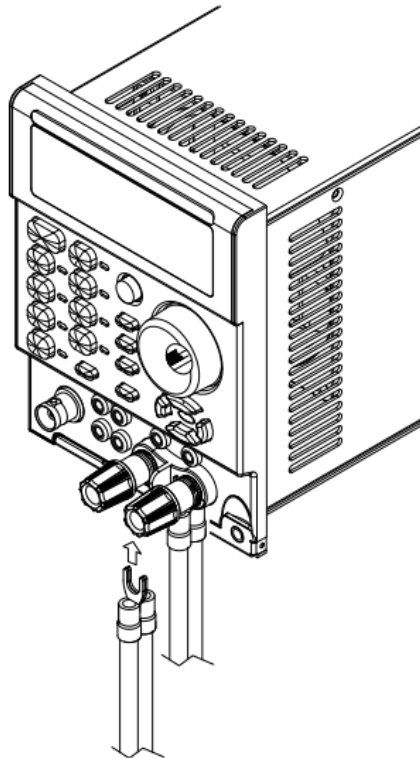

Fig 3-8 Hook Terminal Y type large size terminal connections
- 3.4.2 Spade terminals: The spade terminal provides a good contact to the binding post, It is recommended to use anytime. The maximum wire gage 10 can be used in this Application as show Fig 3-8 and Table 3-5.